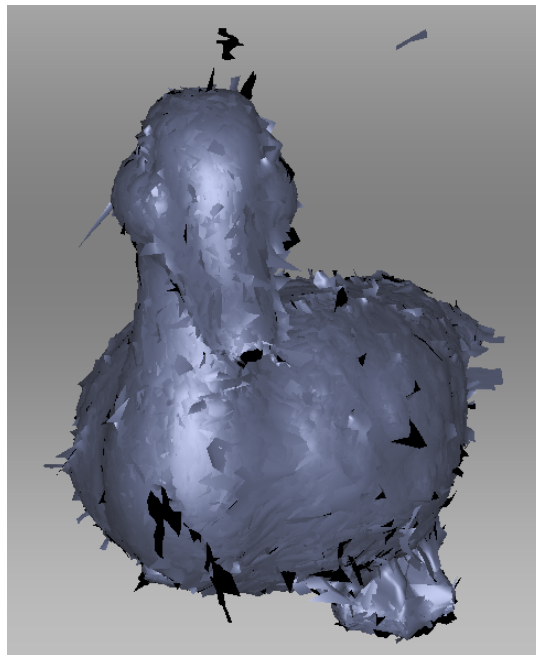

Figure 79: Alignment result.
4. Click *Align...* to run the alignment with your specified constraints (Figure 79 shows example results). If you are dissatisfied with the alignment results, click ↶ and specify additional point sets, or reposition the current sets. To redo an operation that you have undone, click ↷.